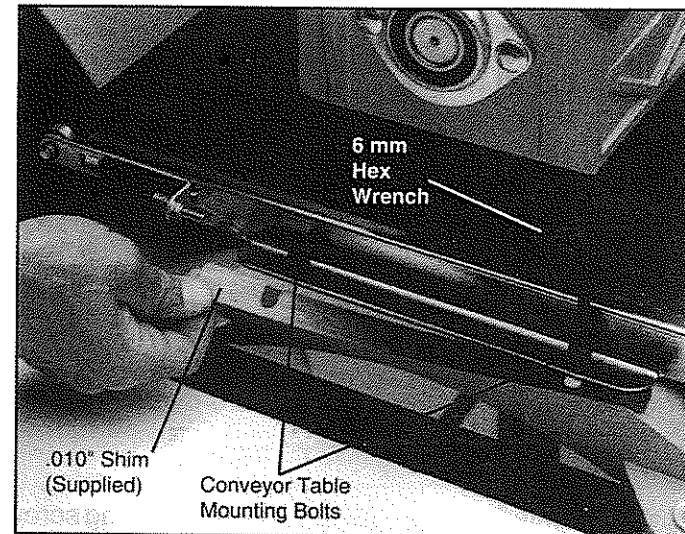

Figure 12
1. Loosen the 2 outboard conveyor table mounting bolts as shown in Figure 12.
4. Using the supplied 6 mm hex wrench key, remove both conveyor table mounting bolts on the outboard, open side of the wide drum sander. (See Figure 12 in the *Drum Alignment* section for reference.)